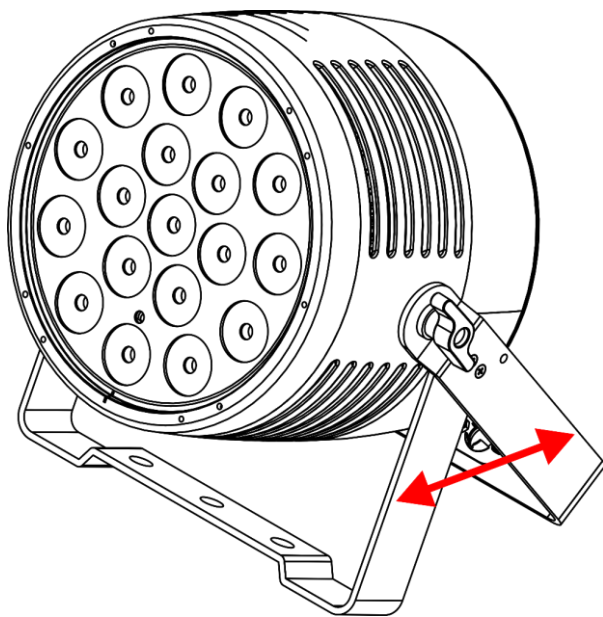

Fig. 05
The device can be positioned on a flat surface (see Fig. 05) or mounted to a truss or other rigging structure in any orientation. Make sure that all loads are within the pre-determined limits of the supporting structure.
- 01) Use a clamp to attach the device to the supporting structure, as shown in Fig. 05. Make sure that the device cannot move freely.